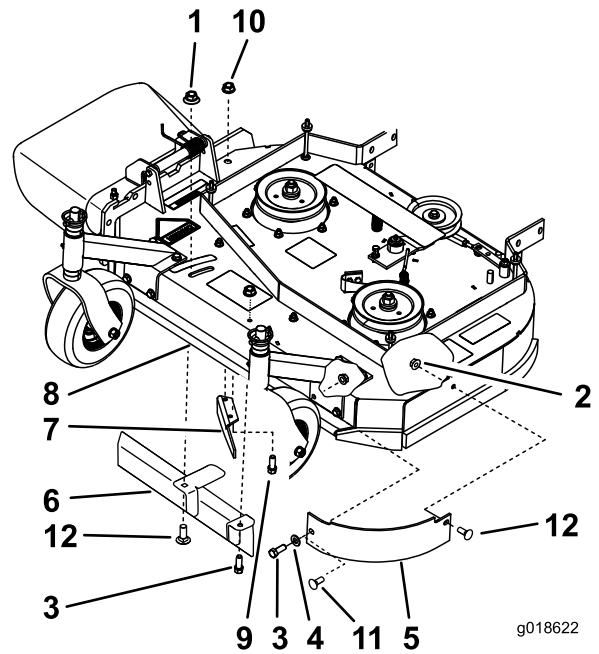
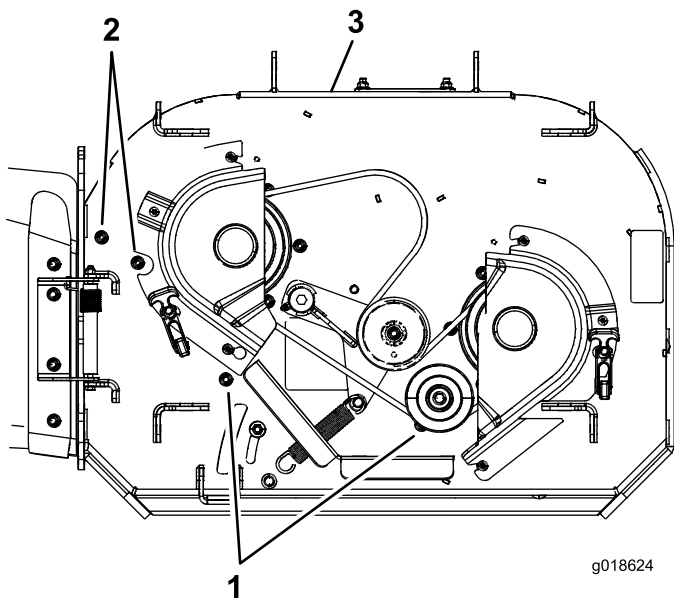

Figure 3
Figure 4
1. Remove the mower belt cover from the mower deck (Figure 3).
2. Remove the bolts, washers and flange nuts holding the left front baffle in place (Figure 3).
4. Remove the bolts and flange nuts holding the discharge baffle in place (Figure 3 or Figure 4). Install the nuts and bolts to cover the holes after the baffle is removed.
5. Remove the large flanged nut or cam lock and washer by unscrewing it from the adjustable flow baffle (Figure 3).
6. Remove the bolt holding the adjustable flow baffle in place (Figure 3).